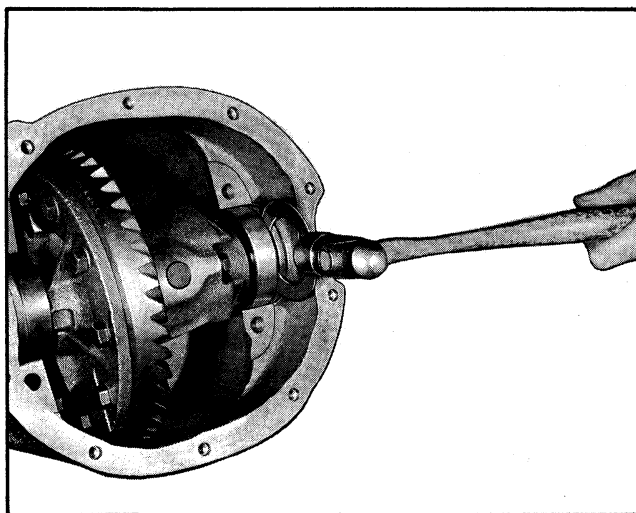

Fig. 4-42 Installing Differential Side Bearing Adjusting Shims
5. Slip left shim between spacer and bearing race, then tap right shim carefully into place, Fig. 4-42.